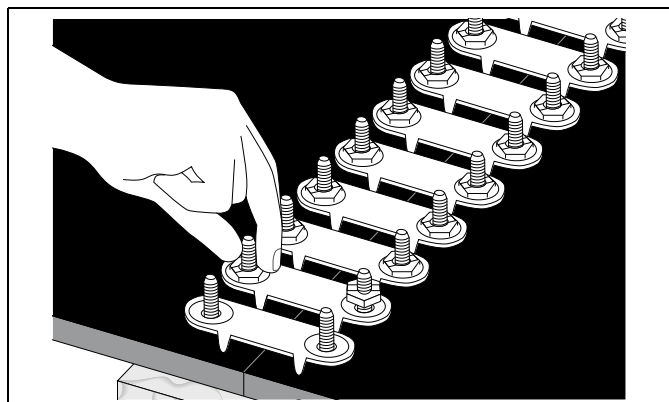

Figure 4J
7. Assemble all top plates the same way as in direction 6. Start nuts down by hand far enough so that wrench will engage bolts. (See Figure 4J.)